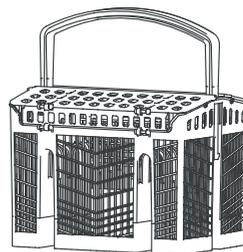

Fig.11
- Load the cutlery (forks, spoons, teaspoons) in a way that the bent parts point the same direction (to achieve better washing results), (Fig.11).